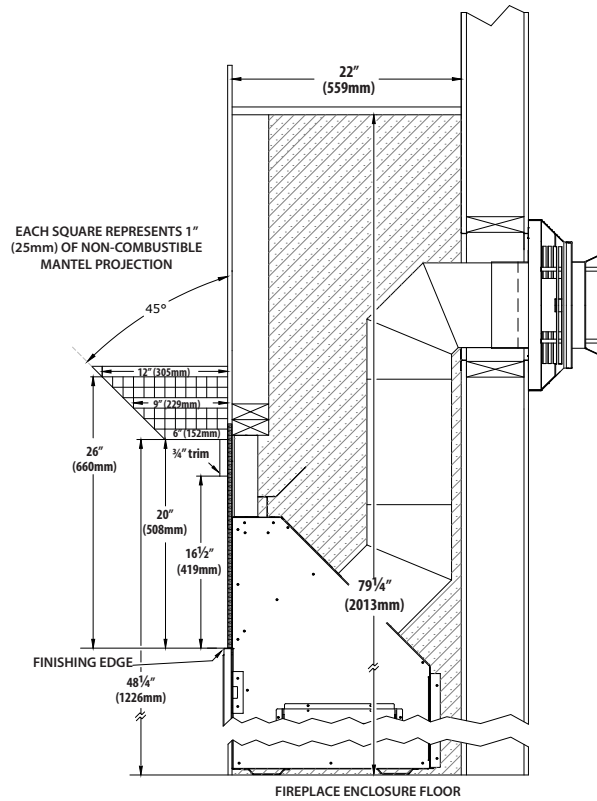

Figure 4.1, Combustible Mantel Clearances
- Combustible Mantel Projections - As referenced in Figure 4.1, the 3/4" trim can start at 16-1/2" (419mm) above the finishing edge with a 6" (152mm) mantel starting at 20" (508mm) above the finishing edge. Mantel projections can increase 1" (25mm) of depth for every 1" (25mm) of height starting at the 6" (152mm) mantel.